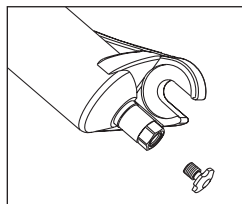

Fig.5
2. Unscrew the small cap with your fingers, being careful not to misplace the cap (Fig 5)